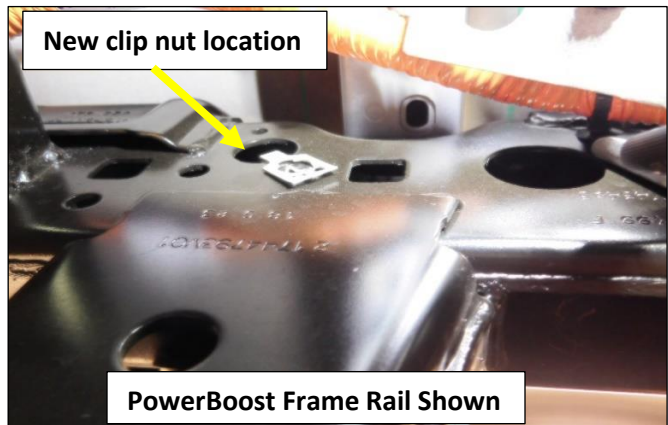
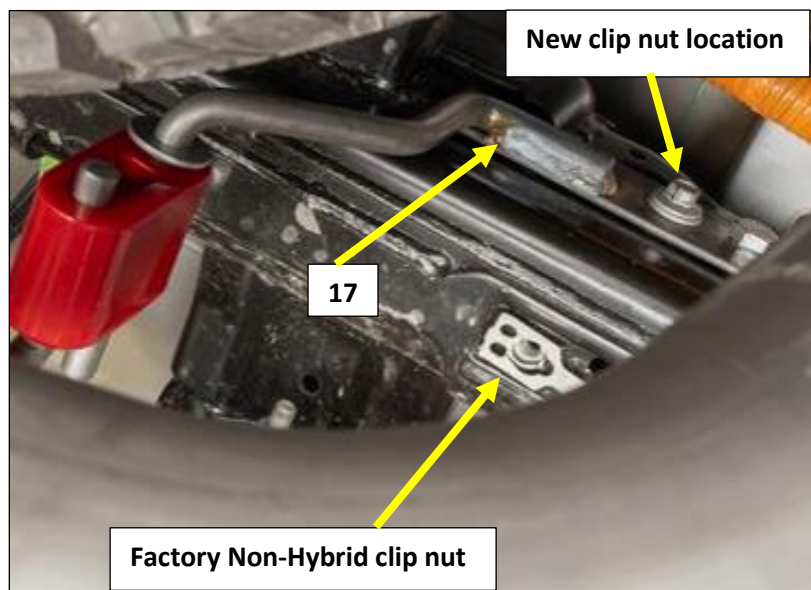

Figure 11
Figure 12
The FACTORY left side tailpipe frame hanger assembly will not be used for Non-Hybrid or PowerBoost models. The Flowmaster frame hanger 535HA (17) will be installed in its place. It will be necessary to relocate the factory clip nut to a different location in the frame rail if it is not already there. Most standard F150 frame hanger assemblies use the correct location. PowerBoost vehicles will need the clip nut relocated as shown in Figures 11 & 12.
2. Remove one of the existing frame hanger clip nuts and re-install it into the frame rail at the location in **Fig. 11**. **NOTE:** Standard F150 models may already be in the correct location. PowerBoost clip nuts will move from the bottom of the frame rail to directly above and to the inside of the frame rail as shown. See **Fig. 12** as reference.
3. Install the 535HA (17) frame hanger on to the inside left frame rail using the OEM mounting bolt. **Fig. 12**